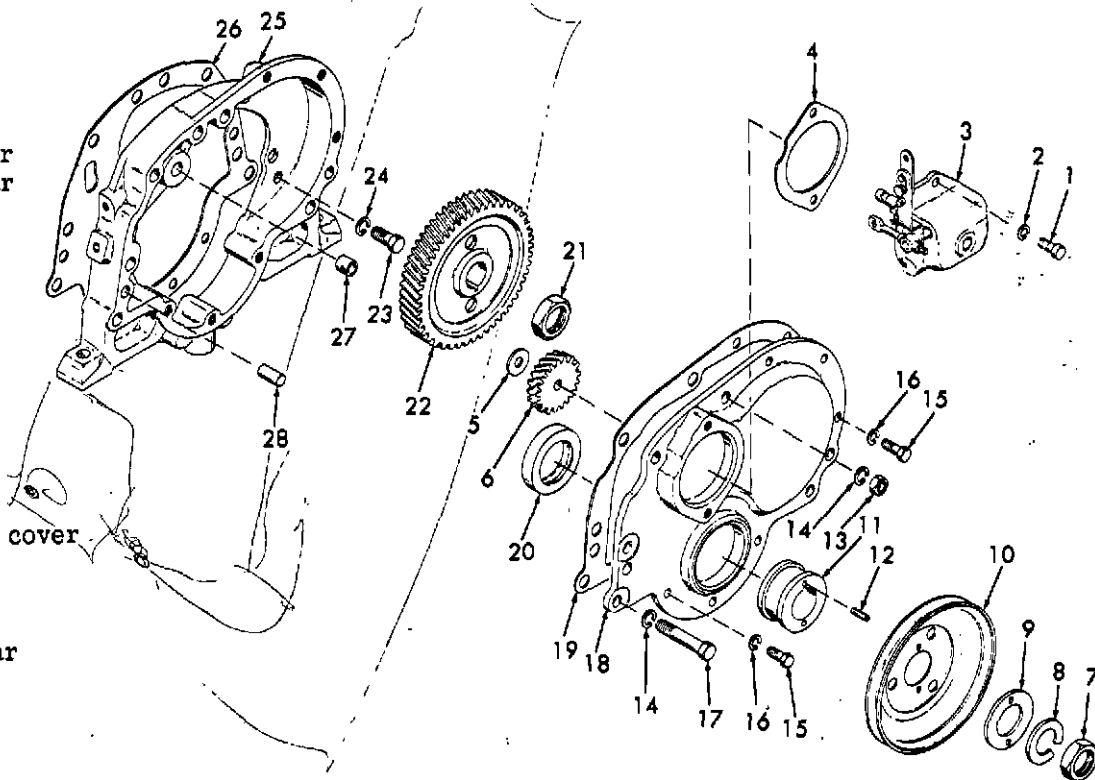
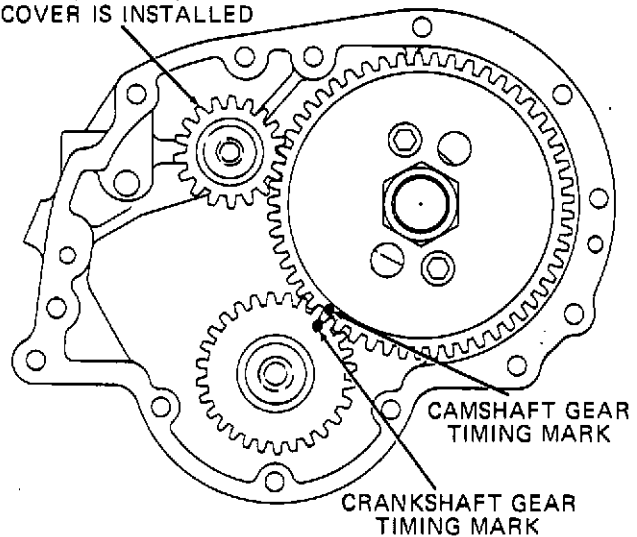

Figure 5-30. Gear Housing and Gears, Exploded View
Figure 5-31. Aligning Camshaft and Crankshaft Gear Timing Marks
4. Remove the nut (7, figure 5-30) and lock washer (8) which secure the pulley (10) and hub (11) to the crankshaft. Pull off the washer (9) and separate the pulley (10) from the hub (11).
(d) Remove the camshaft nut (21, figure 5-30). To keep the shaft from turning, insert a brass bar between crankshaft gear and camshaft gear. Using a standard foot-type puller inserted in holes in gear, pull the camshaft gear (22) from the camshaft.
6. Inspect the governor shaft bushing (27, figure 5-30) for scoring and wear. If it must be replaced, screw a pipe tap into the bushing and pull it from the bore in the gear housing. Press in a new bushing until it is flush with the surface of the housing.
(a) Cement a new gasket (26, figure 5-30) to the gear housing (25). Allow the cement to set enough to prevent the gasket from slipping at installation.
(f) Install the camshaft gear (22, figure 5-30) on the camshaft, aligning the timing mark with timing mark on the crankshaft gear (see figure 5-31). Insert a brass bar between the camshaft and crankshaft gears. Pull down and secure the gear with the camshaft nut (21, figure 5-30). Tighten the nut to 125 to 135 foot-pounds torque.
2. Install a new oil seal (20, figure 5-30) in the gear housing cover (18), using a small amount of sealing compound in the bore before pressing in the seal. If new seal is pre-coated, sealing compound is not required. Cement a new gasket (19) to the gear housing cover.
4. Use a seal slip, if available, to protect the oil seal lips when installing the gear housing cover. If a seal slip is not available, carefully slide the gear housing cover over the end of the crankshaft to prevent damage to the seal lips. Secure the cover with nut (13), cap screws (15 and 17), and lock washers (14 and 16).
5. Install the key in the crankshaft keyway. Start the pulley hub (11) onto the end of the crankshaft and carefully drive it on. Install the pulley (10), washer (9), and lock washer (8) on the
14. If it is necessary to remove the camshaft gear (22, figure 5-30) from the camshaft, remove the nut (21), place the shaft in an arbor press and, with suitable supports under the gear, press the shaft out of the gear. Remove woodruff key (4, figure 5-35) from camshaft and remove the camshaft thrust plate (3).